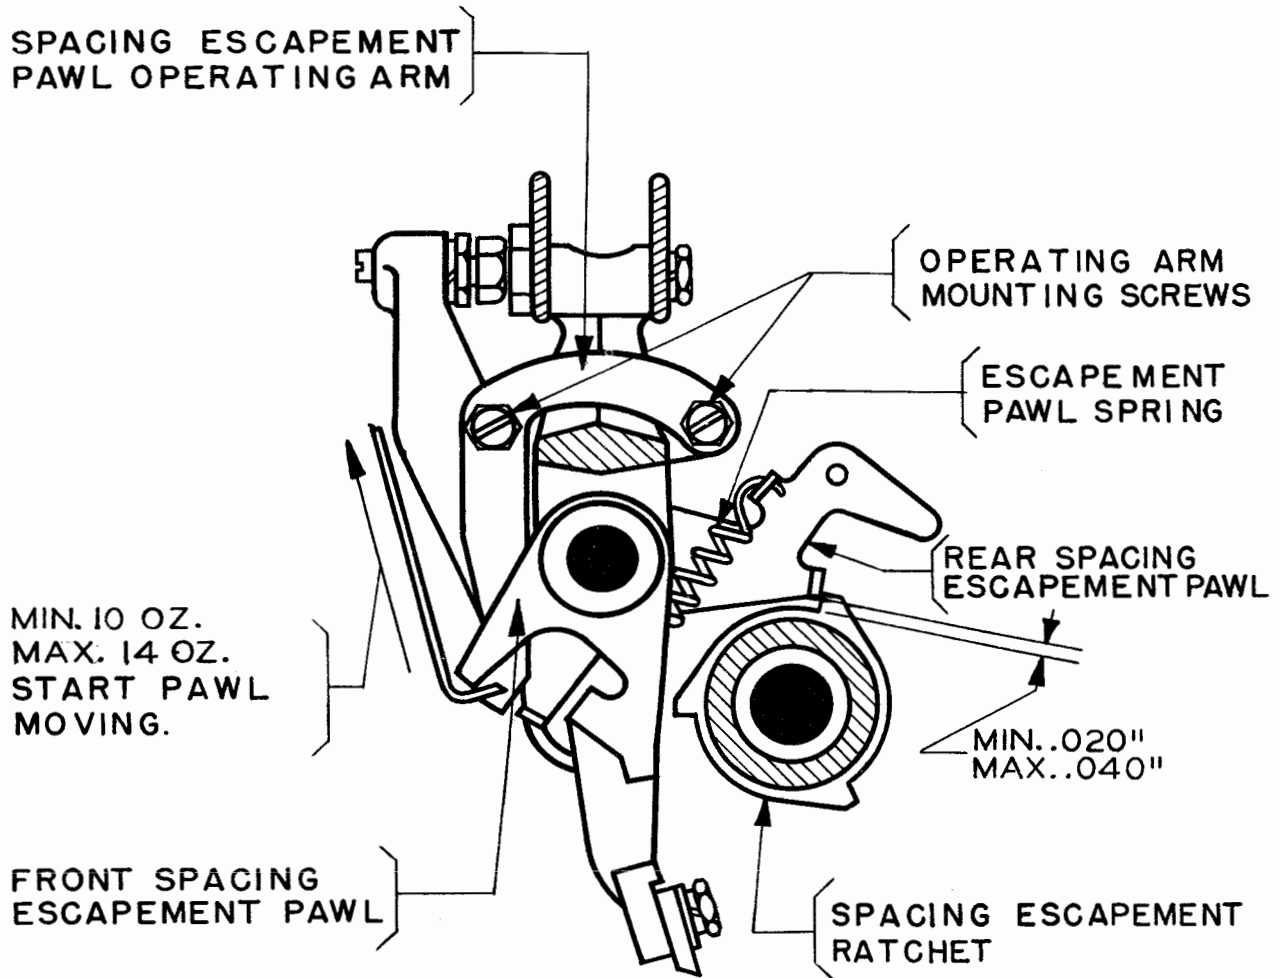

Figure 40
set up and the mainshaft is rotated until the function-lever bail rests on top of the line-feed function lever. See Figure 40.
2.89 Spacing-escapement-pawl Spring: The spacing-escapement-pawl spring should have a tension of minimum 10 ounces, maximum 14 ounces when the mainshaft has been rotated until the printing bail is in its extreme rear position. See Figure 40.